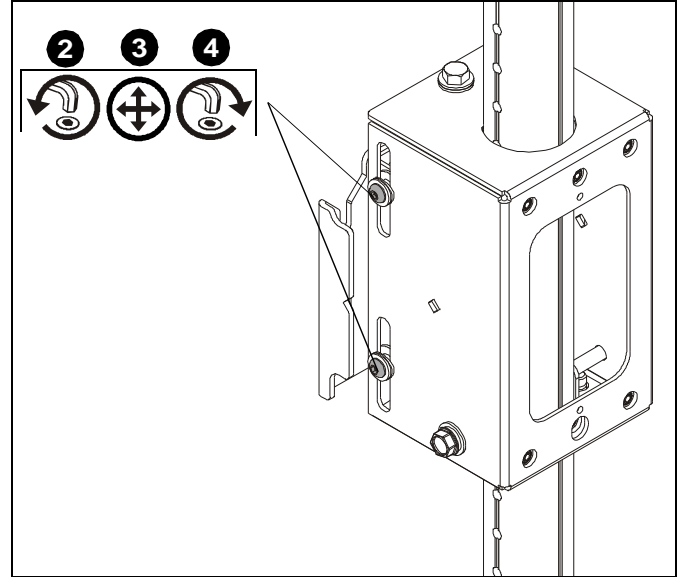

Figure 14
1. If necessary, make height adjustments to the bottom rail by using adjustment points on the array heads (X). (See Figure 14)
2. While holding mounting rail, loosen button head screws on sides of array heads (X).
4. Tighten button head screws on sides of array heads (X).
13. If necessary, make height adjustments to the next higher mounting rail by using adjustment points on the array heads (X). (See Figure 14)